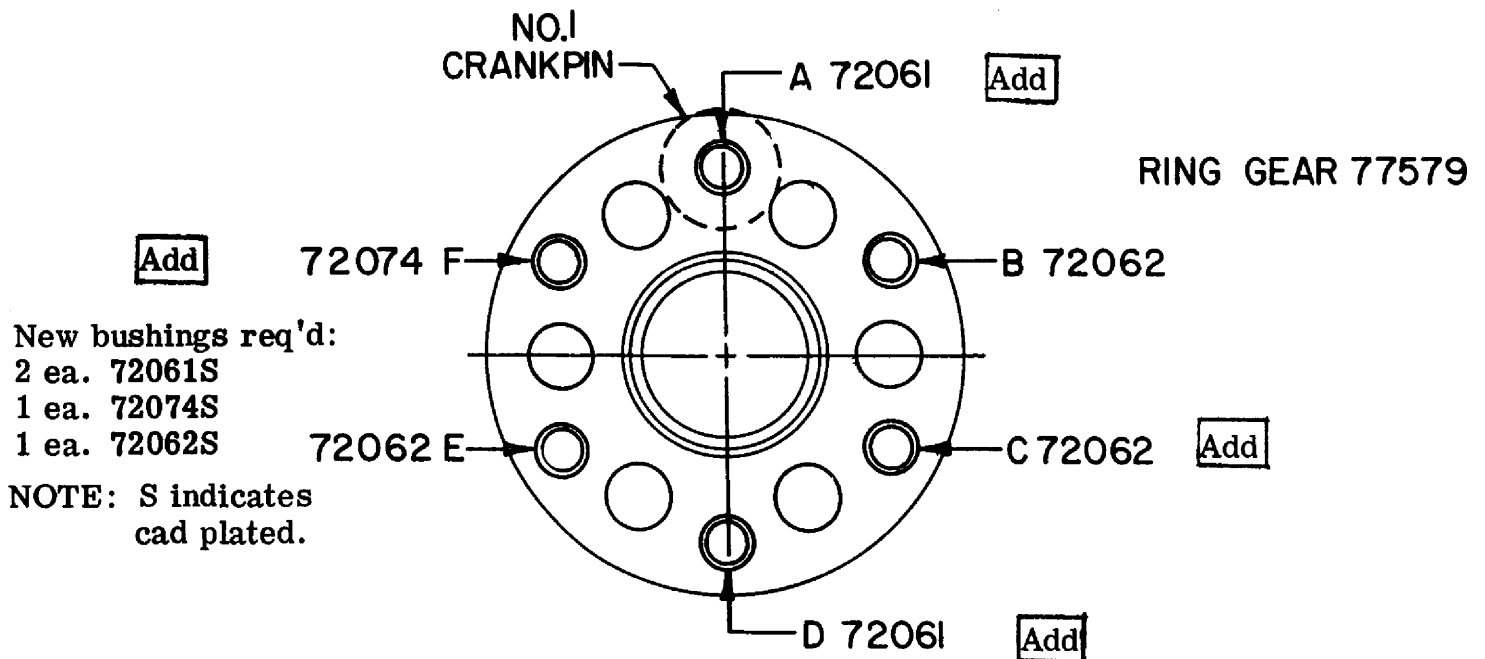

Fig. 2: Tool Needed: ST-115 Install & Remove Prop. Flange Bushing
2. Install new bushings using Avco Lycoming special tool part no. ST-115 in the locations shown in Figure 2. NOTE: The special tool may be purchased through any Avco Lycoming distributor. Re-index spinner backplate to agree with new position. (Torque 50-70 in. -lbs.)